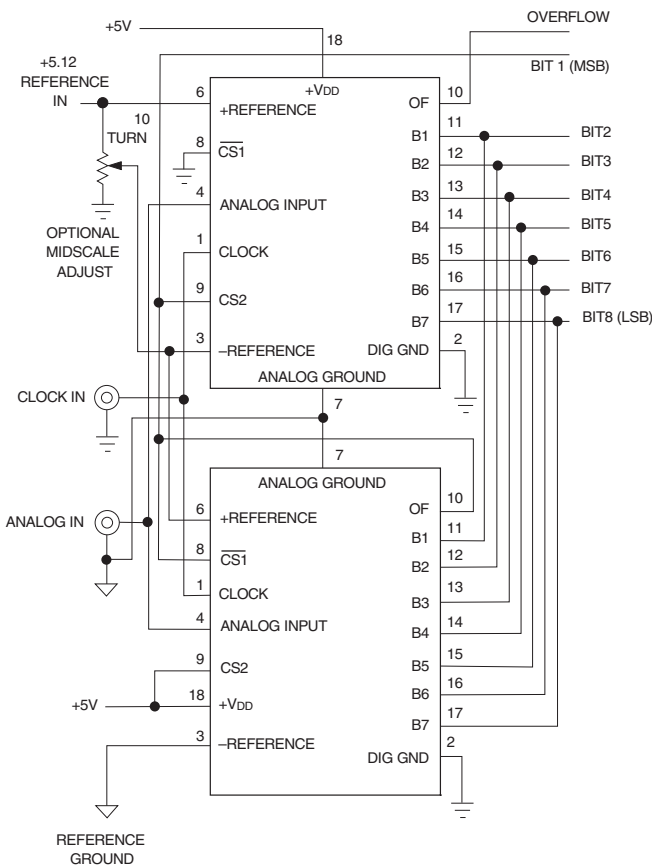

Figure 4. Using Two ADC-207s for 8-Bit Operation
3. **Clock Pulse Width** – To improve performance at Nyquist bandwidths, the clock duty cycle can be adjusted so that the low portion of the clock pulse is 12ns wide. The smaller aperture allows the ADC-207 to closely resemble an ideal sampler. See Figure 4.
Two ADC-207s (A and B) are cascadable for applications requiring 8-bit resolution. The device A provides a typical 7-bit output. The OVERFLOW signal of device A turns off device A and turns on the device B. The OVERFLOW signal of device A is also used as MSB for 8-bit operation. The device B provides the other seven bits from the input signal. Figure 4 shows the circuit connections for the application.